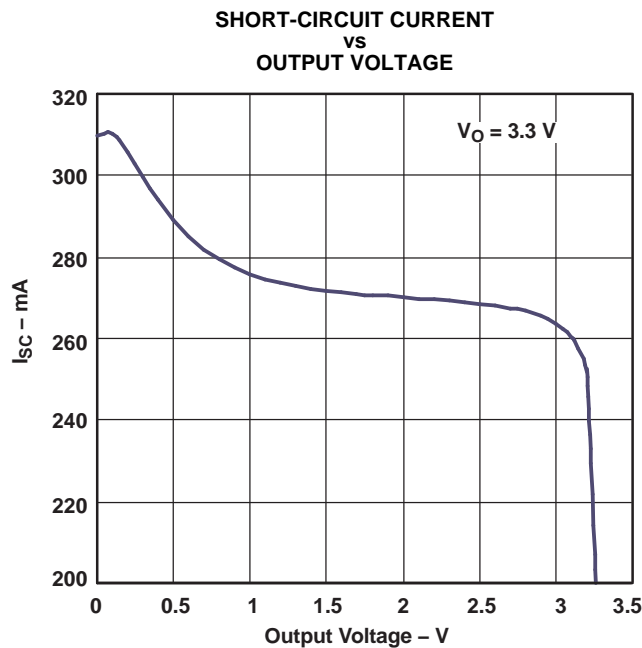

Figure 5.
(3) See Figure 5 in *Typical Performance Characteristics*.